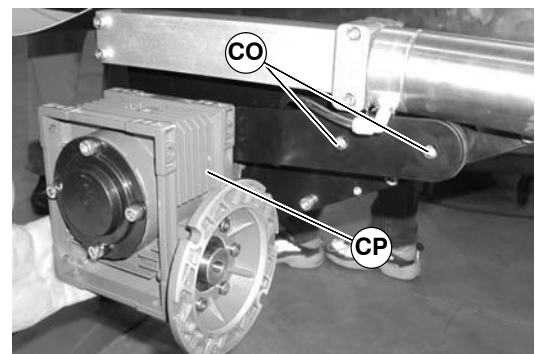
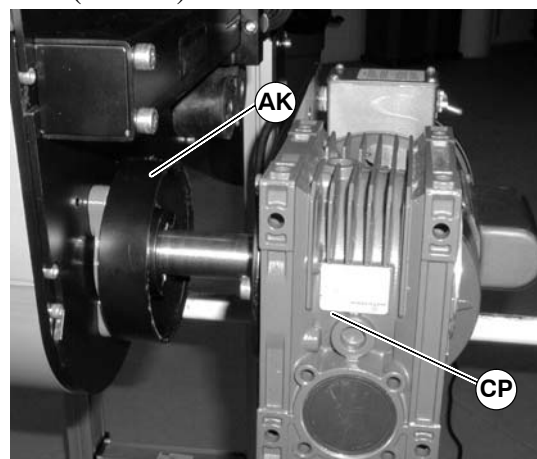

Figure 85
Figure 89
2. Remove screws (CO of Figure 85) and remove gearmotor (CP) (NOTE: Gearhead shown with motor removed for clarity, motor can remain attached to gearhead).
9. Reinstall spacer ring (AK of Figure 89) and gearmotor (CP). Tighten screws (CO of Figure 85) to 150 in-lbs (17 N-m).